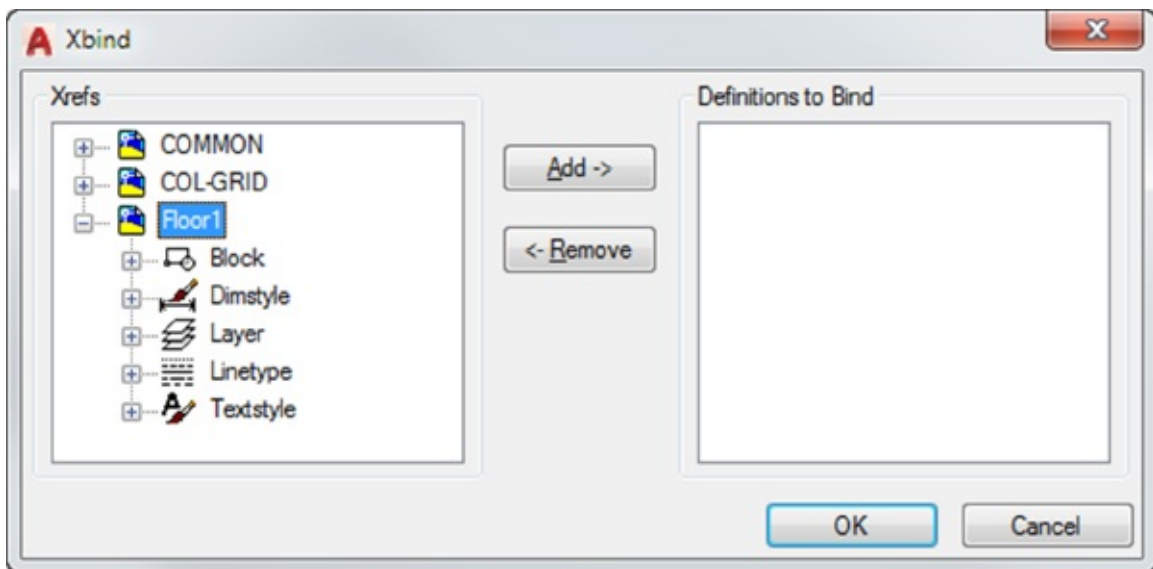

FIGURE 14.12 The expanded Floor1 list
3. Click the plus sign next to the Floor1 Xref item. The list expands to show the types of elements available to bind (see Figure 14.12).